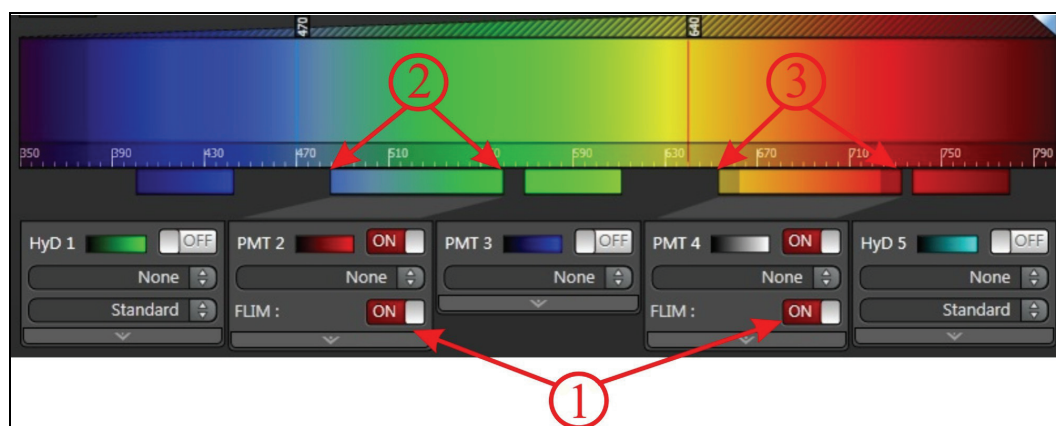

Figure 120: Beam Path Settings in LAS AF for internal FLIM data acquisition. Other detectors may also be activated at the same time.
For a 5-channel system with a single internal SP FLIM detector, the detector should be at position 4; two internal FLIM detectors should occupy positions 2 and 4 (**Figure 120**). These settings have been preconfigured and cannot be changed by the user. SP FLIM detectors can be used for normal intensity image acquisition (**Chapter 16.1.1**) as well as FLIM data acquisition.
2. In the **FLIM Detector** pull-down menu, select the **Internal (SP FLIM)** option (**Figure 119**). The SP FLIM detector should be automatically activated in the **FLIM** mode. If the SP FLIM detector has been deactivated by the user in the meantime, it can be activated by clicking the **ON** button (**Figure 120, item 1**).
3. Select a suitable range for spectral detection by adjusting the spectral sliders of the SP FLIM detectors accordingly (**Figure 120, item 2 and 3**).